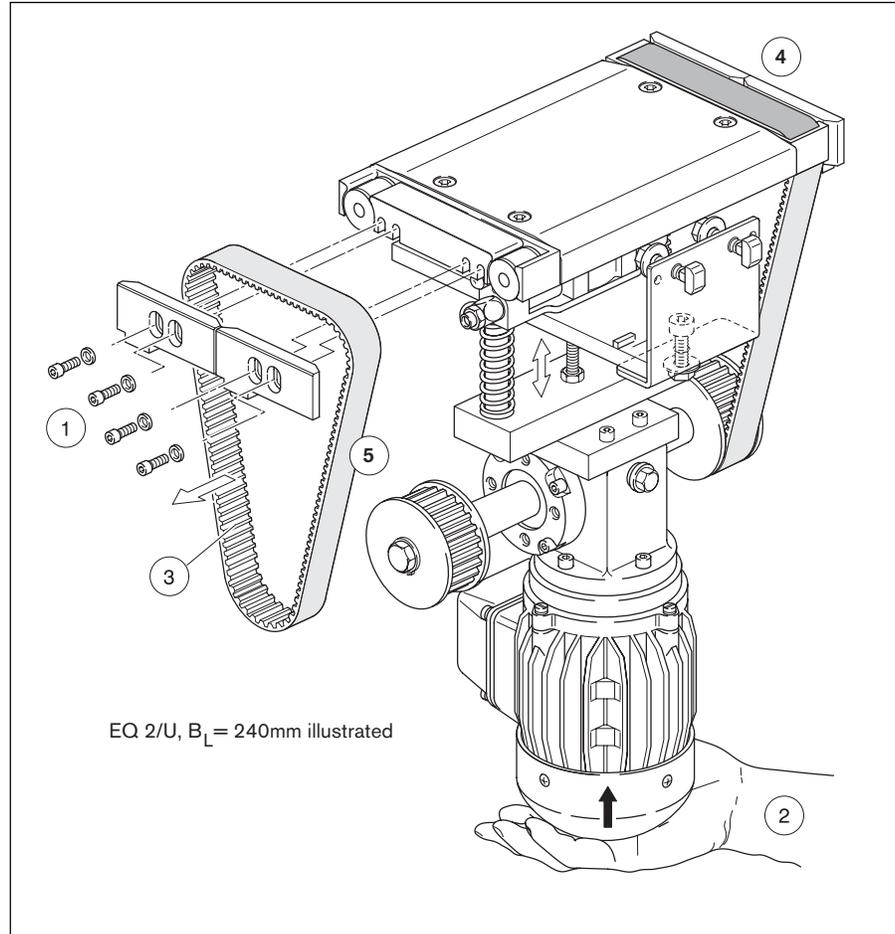

Figure 15
## Replacing the Toothed Belt (Fig. 15)
- 1 Remove the socket head cap screws, lockwashers and pallet guide from the side of the LTU as shown in Fig. 15.